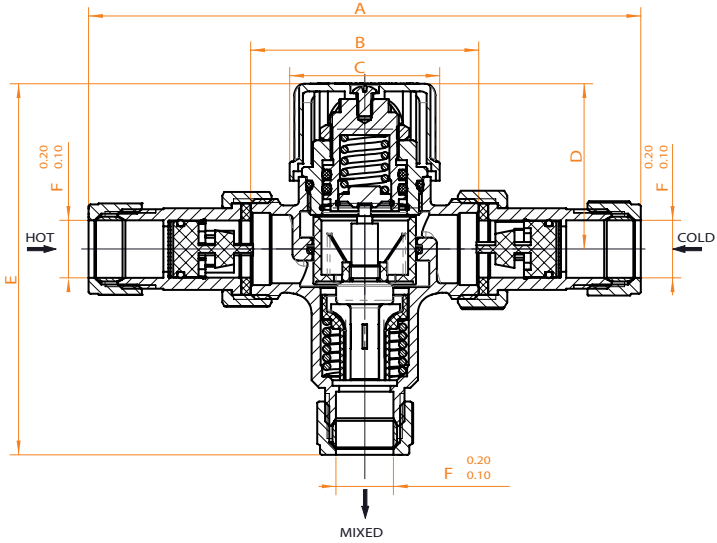

Figure 4
- 2.6 Assemble the valve to the pipework and ensure the hot and cold water pipes have full penetration into the tailpiece. The compression fittings supplied allow for direct connection to BS22mm OD tube or BS 15mm OD tube, Figure 4 and Table 3.